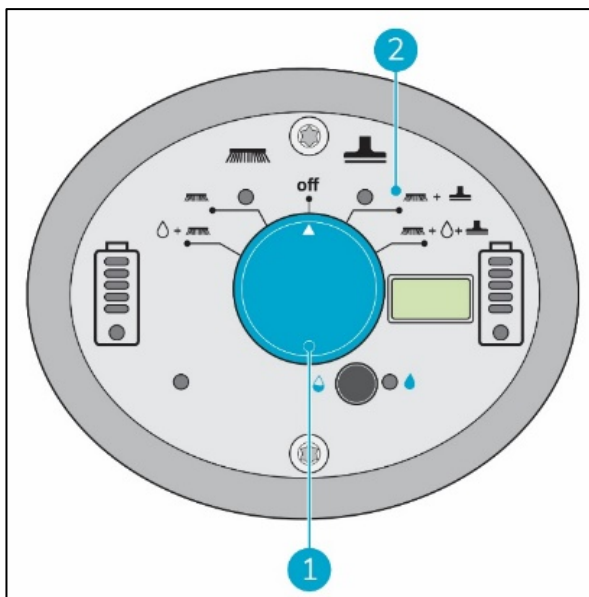

Figure 21
1. Use the i-mop XL pro main switch (Figure 21, pos 1) and choose MODE 3 Brush + Dry vacuum (Figure 21, pos 2).